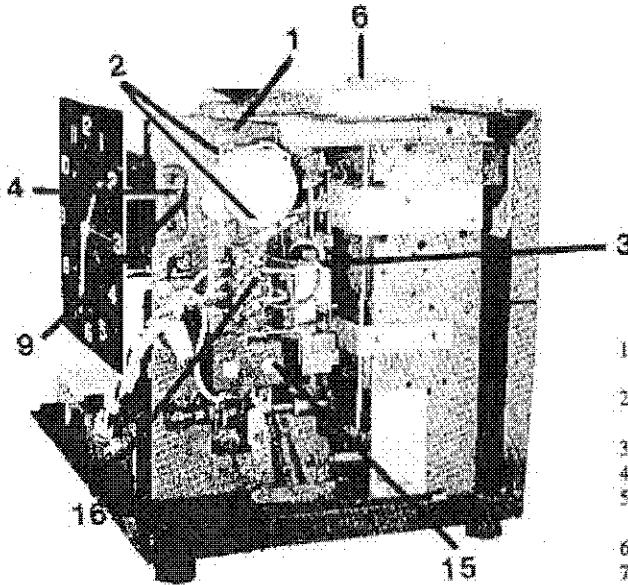

Figure 1
The following reference points are located on figures 1 & 2.
9. Check that synchronized type wheels and clock face show correct time. If they do not, turn the Main Setting Wheel (Figure 1, 4) until the recorder displays the correct time.
2. Rotate Main Setting Wheel (Figure 1, 4) until the Tenths Wheel clicks over from "9" to "0".
3. Locate and press the Type Section Unlocking Latch (Figure 1, 1) with one hand and swing the type section out with the other.
4. Observe the wiring of the motor into the Motor Terminal Block (Figure 1, 16). Disconnect the motor wires from the terminals.